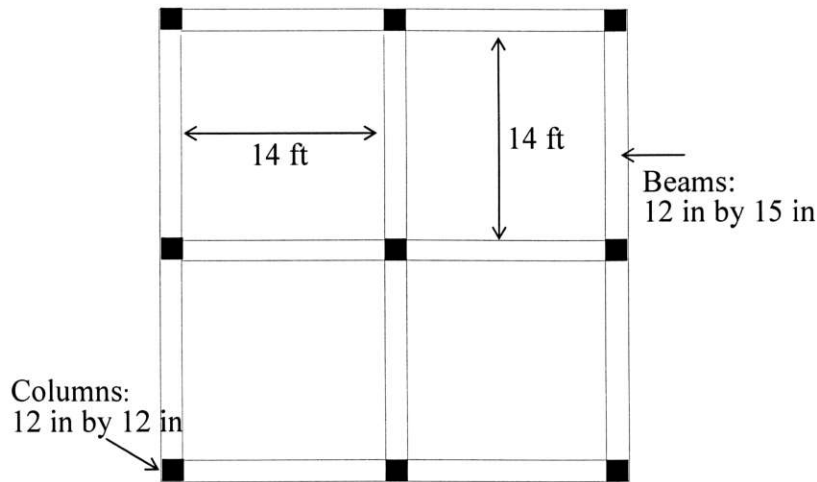

Figure: 10
13. Refer to the following slab system of a two-storied building (**Figure: 10**). For the slab consider LL = 60 psf, Partition Wall = 30 psf, Floor Finish = 20 psf, $f'_c = 3000$ psi, $f_y = 40,000$ psi.